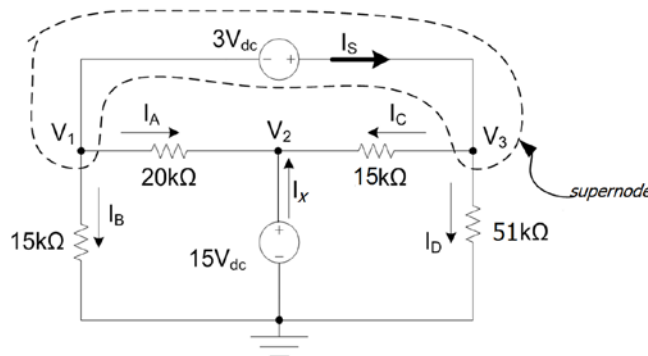

Figure 4-4: Supernode circuit
- Copy Figure 4-4 into your lab book. Simulate the circuit in NI Multisim and use the DMM to measure all of the labeled voltages and currents (V_1 , V_3 , I_A , I_B , I_C , I_D , I_S , I_X). Submit the results of the NI Multisim simulation with the results shown on the print
2.3 **Supernode Circuit.** Build the circuit of Figure 4-4 and measure the node voltages V_1 , V_2 , and V_3 . Measure the branch currents I_A , I_B , I_C , and I_D . Be careful to measure the currents in the direction indicated in the circuit and record both the magnitude and sign of the currents that you measured. Label and measure the current through the 3V source (I_S). Also measure the voltage over the 20 kΩ resistor (V_1-V_2) and the voltage over the 15 kΩ resistor (V_3-V_2). Organize and record your measurements in a data table.
- Circuit of Figure 4-4 with components properly labeled